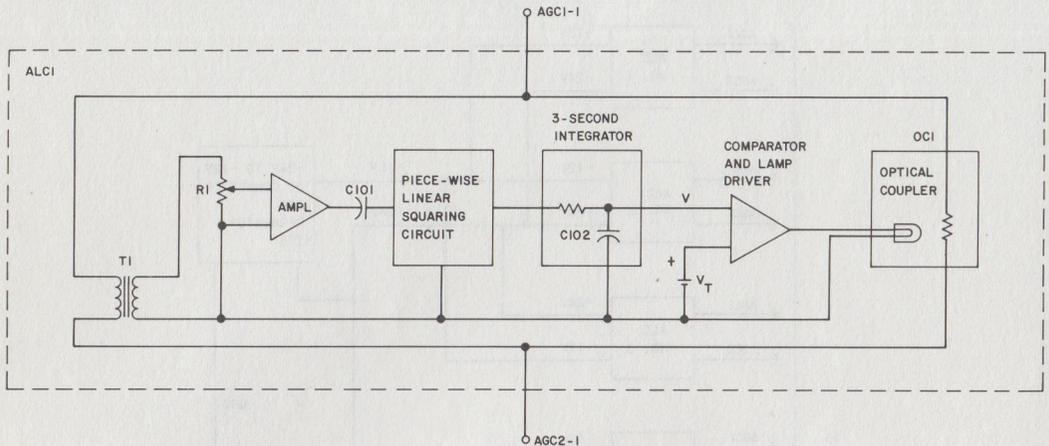

Fig. 3—Block Diagram of ALC Circuits in 75A Control Unit
4.03 Voice or data signals present in the IU are applied to transformer T1 in the 75A control unit (Fig. 3). The output of T1 is level adjusted, amplified, and ac coupled to the piecewise linear squaring circuit. The squaring circuit output is integrated to produce a dc voltage proportional to the 3-second average power of the signal passing through the IU. When this voltage exceeds the preset threshold voltage of the ALC circuit, the differential amplifier will drive current through the optical coupler (OC1) lamp, which illuminates the photoconductor (resistor) in OC1. Illumination causes the resistance of the photoconductor to decrease and shunt excess signal power away from the IU so as to hold the signal level at the IU constant at the preset level.